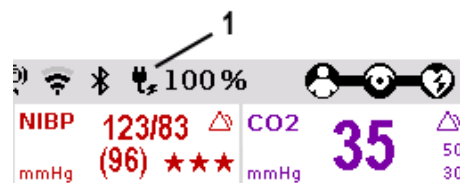

Fig. 3-22 Display of the current state of charge of the batteries on mains operation
**State of charge display** The current state of charge of the batteries is displayed on the status-/alarm line of the monitoring unit (Fig. 3-22).